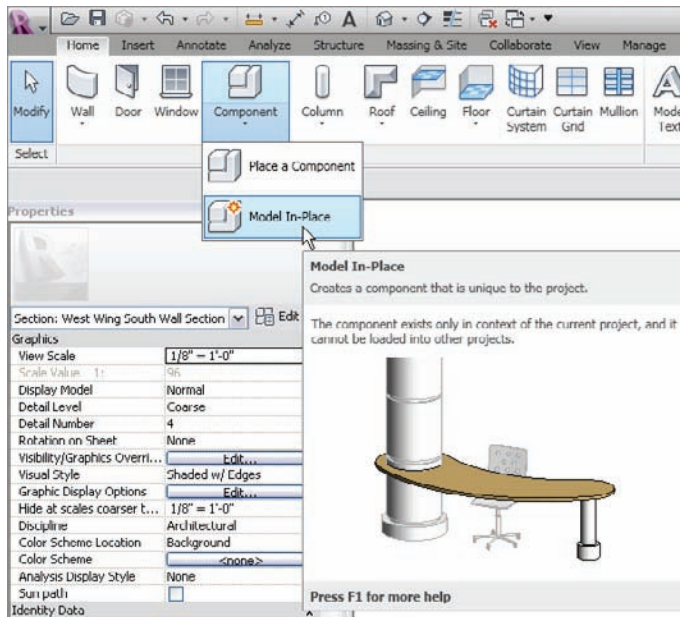

FIGURE 17.29 Starting an in-place family
3. On the Home tab, click Component > Model In-Place, as shown in Figure 17.29.